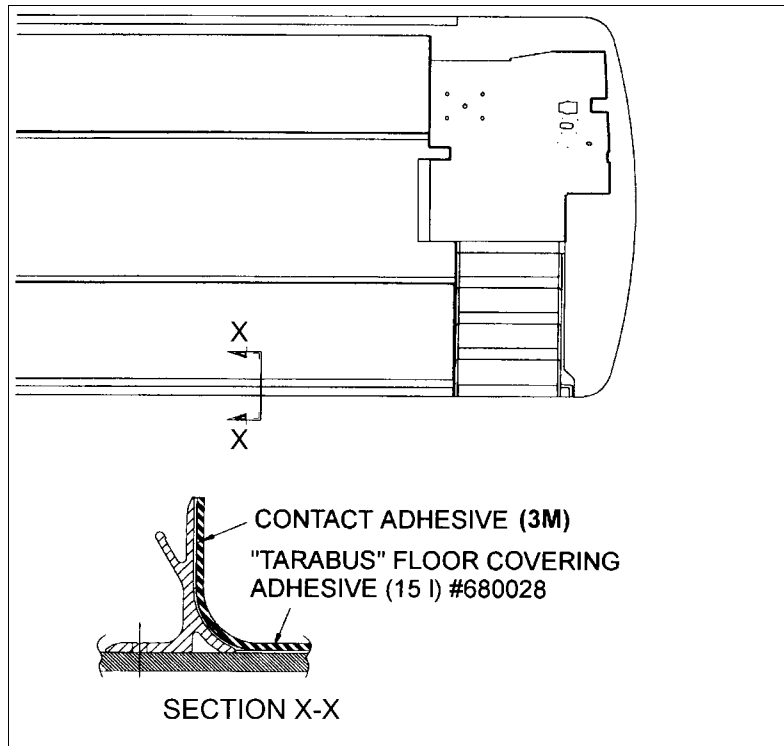

FIGURE 157: TARABUS FLOOR COVERING ADHESIVE APPLICATION 18640
6. Apply floor covering adhesive (680028) onto plywood using a serrated spreader with 1/8-inch serration. If required, apply contact adhesive (3M) (684655 or 684654) onto aluminum molding and also onto section of floor covering, which will be in contact with molding (refer to Figure 157).